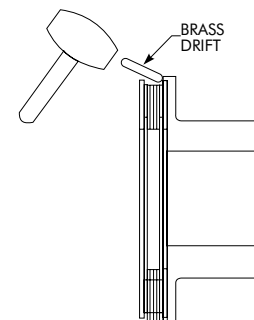

Figure 8B
4. The unitized flex element side plates will have a light interference fit with its corresponding flange pilot. Seating force must be applied directly to the engaging side plate of the flex assembly. Apply this force to the side plate between bolt and clearance holes using a brass drift pin. (See Figure 8B.) **With the side plate seated in the flange pilot, all the bolts must turn freely by hand.** If the bolts do not turn freely, use jacking screws to release pilot fit, then repeat side plate fitting procedure.
5. Back the bolts out until they are flush with face of the installed flex assembly. Install the center member with match marks aligned. Using the bolts as guide pins, and while supporting the free end of the center member, seat the pilot using the method shown in Figure 8B. **With the side plate seated in the flange pilot, all the bolts must turn freely by hand.** If the bolts do not run freely, use jacking screws to release pilot fit, then repeat side plate fitting procedure. Install the locknuts. Tighten the locknuts only enough to maintain the assembly. Final torque will be applied after the total coupling is assembled.
5. Back the bolts out of the standard end until they are flush with the face of the installed flex assembly. Install the center member with match marks aligned. Using the bolts as guide pins and while supporting the free end of the center member, seat the pilot using the method shown in Figure 8B. **With the side plate seated in the flange pilot, all the bolts must turn freely by hand.** If the bolts do not turn freely, use jacking screws to release pilot fit, then repeat side plate fitting procedure.